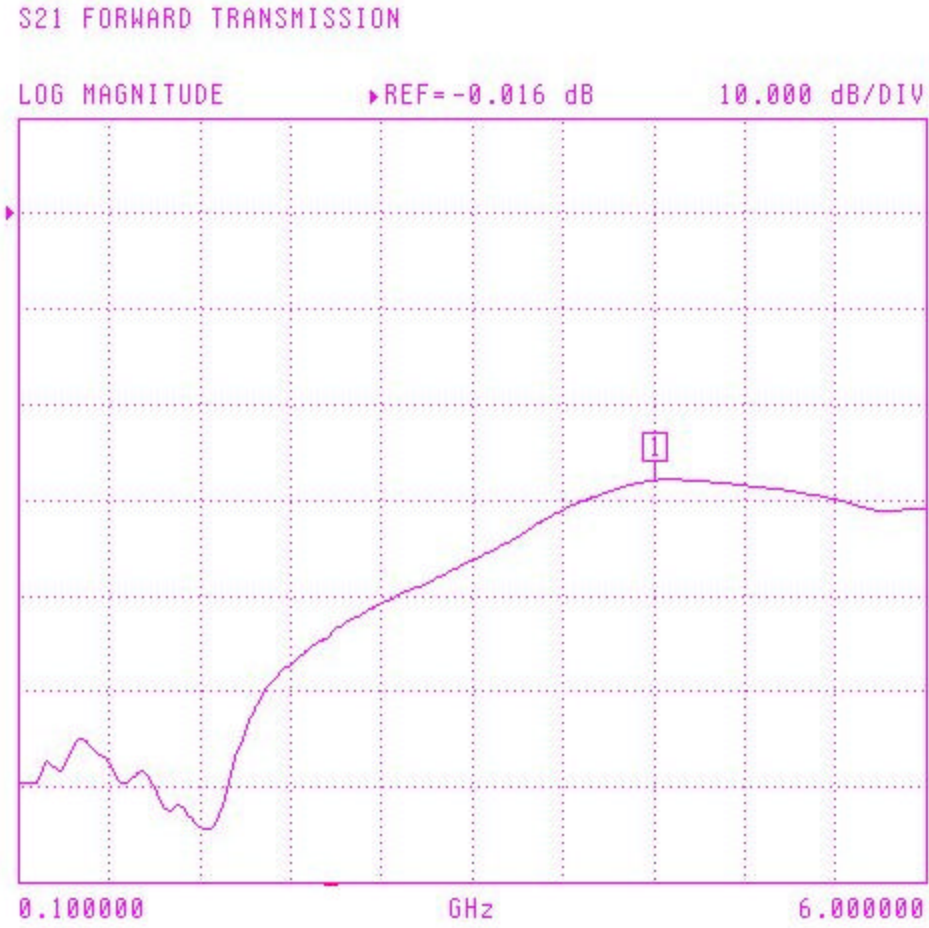

Figure 4
- Figure 4 : Isolation Measurement / Active to Inactive Port.
Isolation / NC to NO	Fig. 4